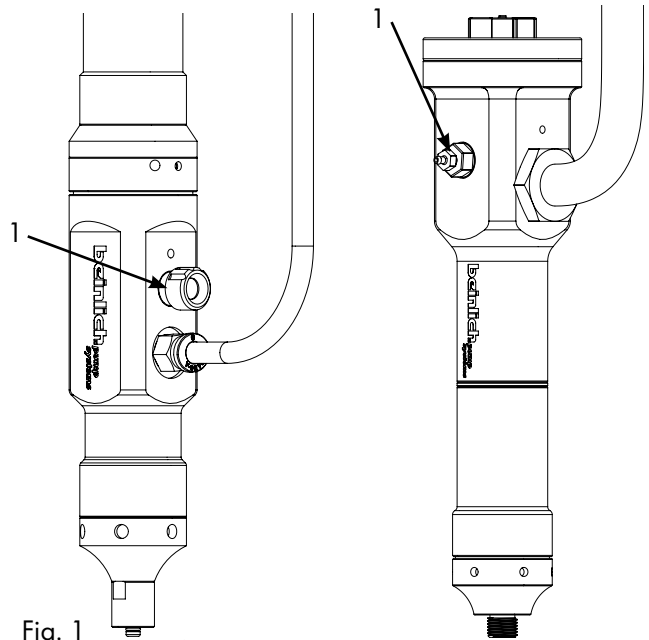

Fig. 1
- Move the pump into position (Fig.1) and open the cartridge or apply pressure to the container / supply line.
- Loosen the venting screw (item 1) a few millimetres so that air can escape.